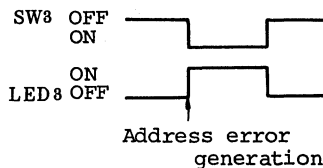

Figure 15-7. Example of FSADDR Execution
- b. Example of FSADDR execution is shown in figure 15-7. When address error is generated, turn on LED3.